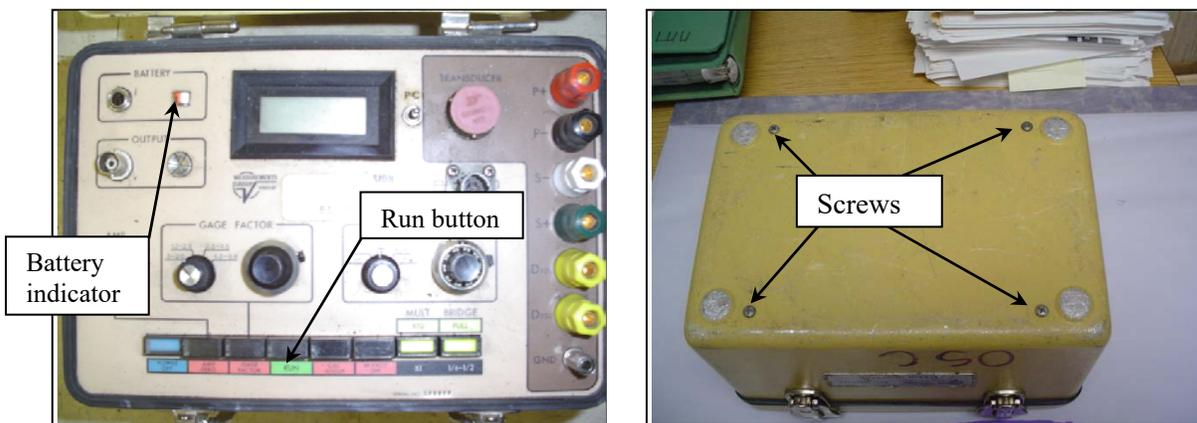

Figure B-2.
1. Check pressure cell battery by pressing the “run” button (green on the bottom row) then check the battery indicator to make sure the needle is in the white area. If the needle is in the low white or orange area, it is time to change the battery. There is no charge cable for the pressure cell. Change the battery by closing the pressure cell top down, turn the unit over and unscrew the four screws on the bottom of the unit. Open the lip to the unit, lift the cell portion up from the cell box (the batteries are located on the bottom of the cell unit) change the 4 “D” batteries, put the cell portion back in the box and screw back the 4 screws on the bottom (See Figure B-2).